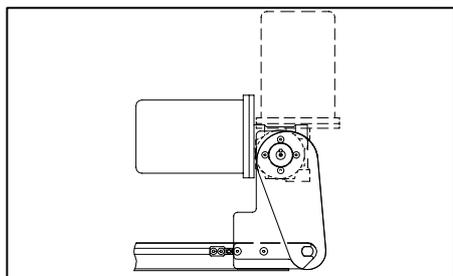
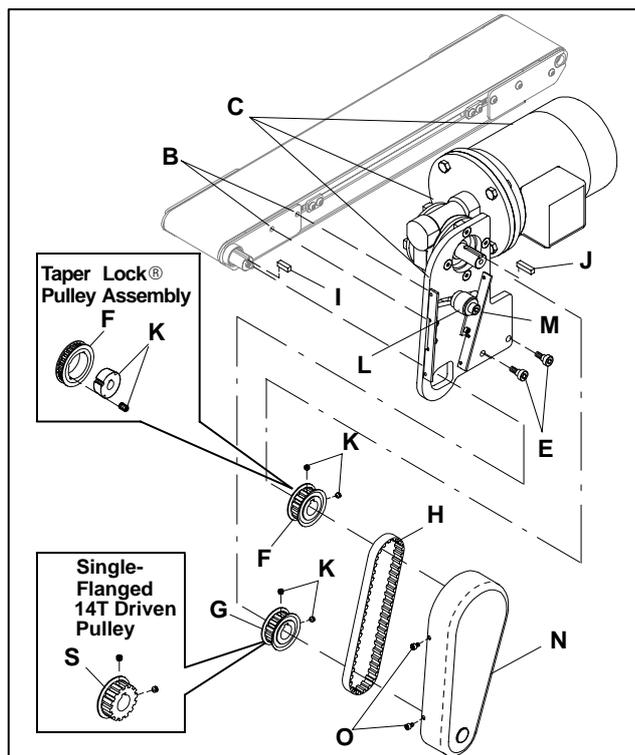

Figure 3: Gearmotor Re-orientation Detail
Figure 4: Sample Flat Belt Top Drive
1. Remove and discard two original tail plate screws (B of Figure 4) from outboard shaft side of conveyor assembly.
2. The gearmotor and mounting plate (C) are shipped already sub-assembled, as shown. Attach this sub-assembly to the conveyor using the two 8 mm x 12 mm socket head shoulder screws (E) with 9 Nm torque.
3. If desired, re-orient motor to the alternate position shown by detaching the four (4) mounting screws, turning the gearmotor 90° and re-securing the 4 screws (Figure 3).
For this drive arrangement, a Taper Lock® pulley (F of Figure 4) and bushing (K) combination, when provided, should only be installed on the gear reducer output shaft and not on the conveyor shaft.
For the combination 14T and 14T Pulley Kit only, be sure to install the single-flanged pulley (S of Figure 4) onto the conveyor shaft in the direction shown.
- After the required tension is achieved, tighten the M8 x 40 mm socket head cap screw (M of Figure 4) with 24 Nm of torque.
- Re-attach belt guard (N of Figure 4) using all four (4) M4 x 6 mm socket head cap screws (O).